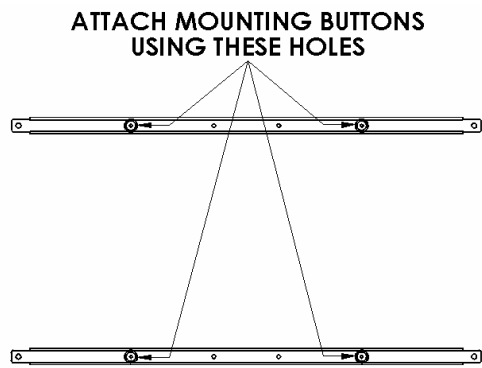

Figure 2
1. Using a 10-24 button head cap screw inserted from back side of bracket, secure mounting button, with chamfered hole of mounting button (larger surface) facing bracket, to bracket (four places) (see Figure 2 & Figure 3).